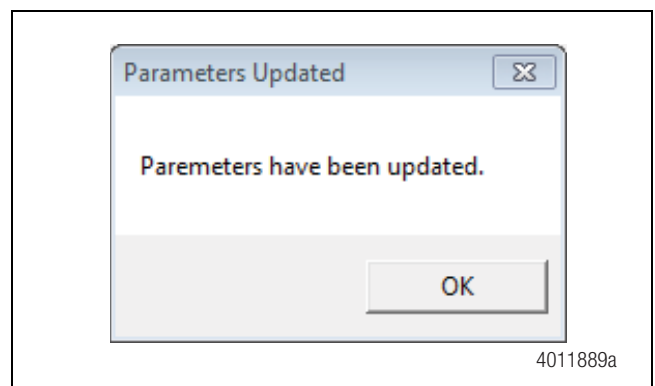

Figure 9
11. Once the Parameter update is complete, the following notification will appear. Figure 9.